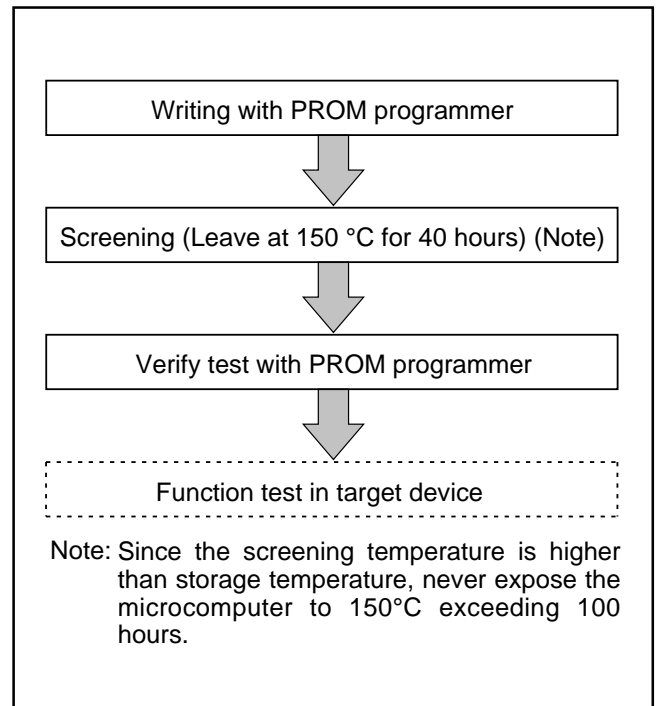

Fig. 33 Flow of writing and test of the product shipped in blank
- ① A high-voltage is used for writing. Take care that overvoltage is not applied. Take care especially at turning on the power.
- ② For the One Time PROM version shipped in blank, Mitsubishi Electric corp. does not perform PROM writing test and screening in the assembly process and following processes. In order to improve reliability after writing, performing writing and test according to the flow shown in Figure 33 before using is recommended (Products shipped in blank: PROM contents is not written in factory when shipped)